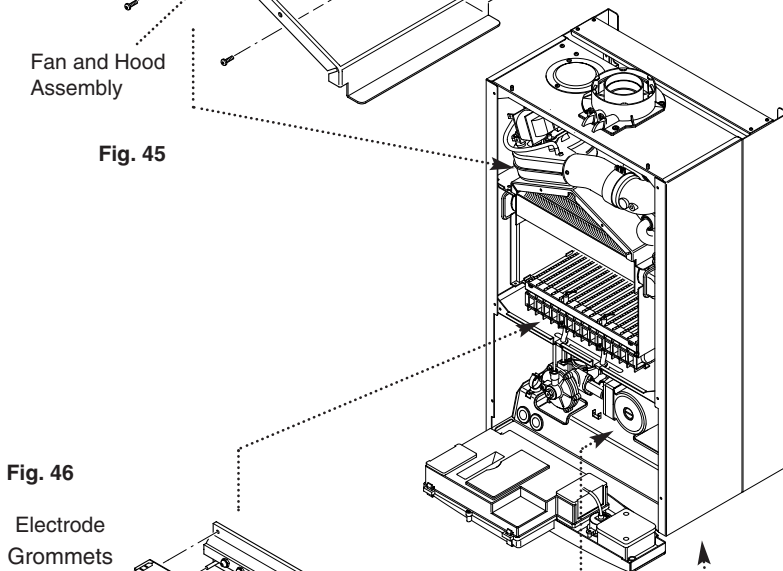

Fig. 46
12. Draw the burner out of the combustion box, pulling the electrode grommets from the slots in the combustion box lower panel (Fig. 46).
13. Disconnect the electrode leads and grommets from the electrodes. Completely remove the burner (Fig. 46).